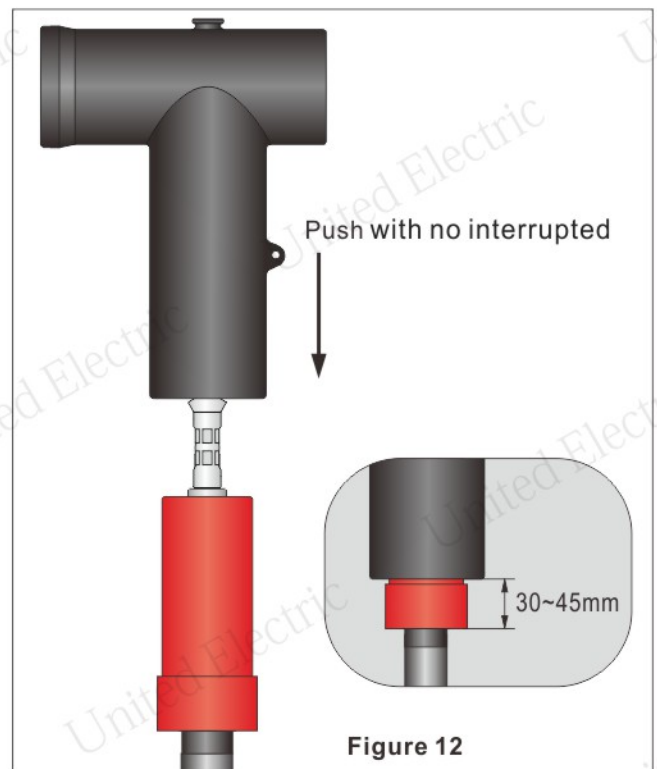

Figure 12
- Be noticed that the stress cone and PVC marker should not have any moving. The down end of the stress cone will expose for 30-45mm. (Figure 12)